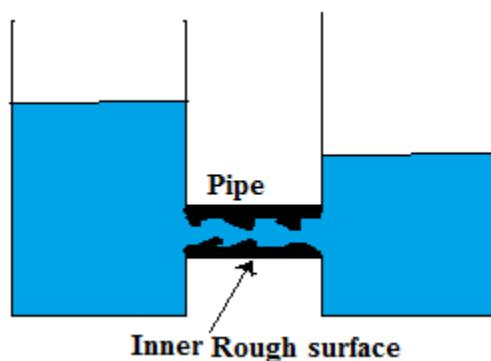

Fig 2.2
- Fig 2.2 shows the two tanks connected by the pipe whose inner surface is rough then in such a condition the obstruction to water flow is more.